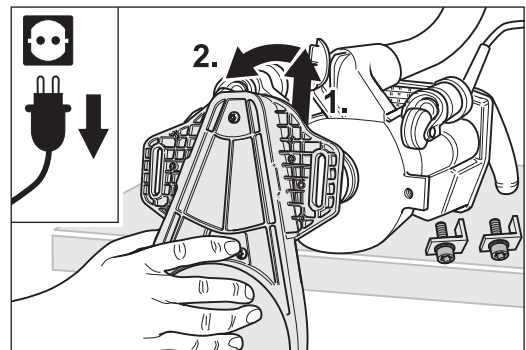

Fig. 35 Remove the attachment from the machine.
- 7 Remove the attachment from the machine (Fig. 35) and put down the attachment with the sanding disc facing upward.